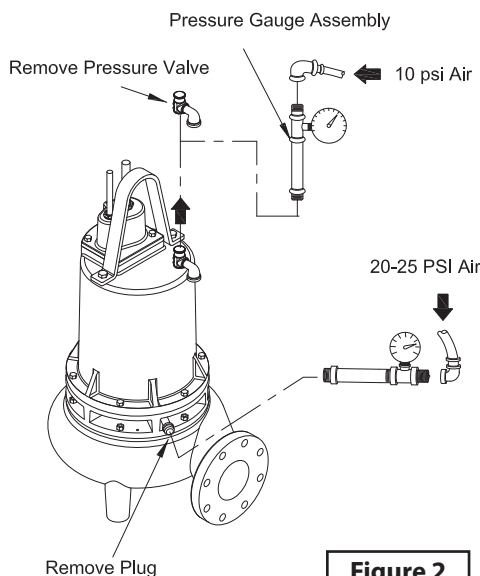

Figure 2
Motor Housing - Oil should be at normal level. Remove pressure valve (11) from motor housing (3). Apply pipe sealant to pressure gauge assembly and tighten into hole (See Figure 2). Pressurize motor housing to 10 P.S.I. Use soap solution around the sealed areas above the oil level and inspect joints for "air bubbles". If, after five minutes, the pressure is still holding constant, and no "bubbles" /oil seepage is observed, slowly bleed the pressure and remove the gauge assembly. Replace oil. Leek must be located and repaired if pressure does not hold.